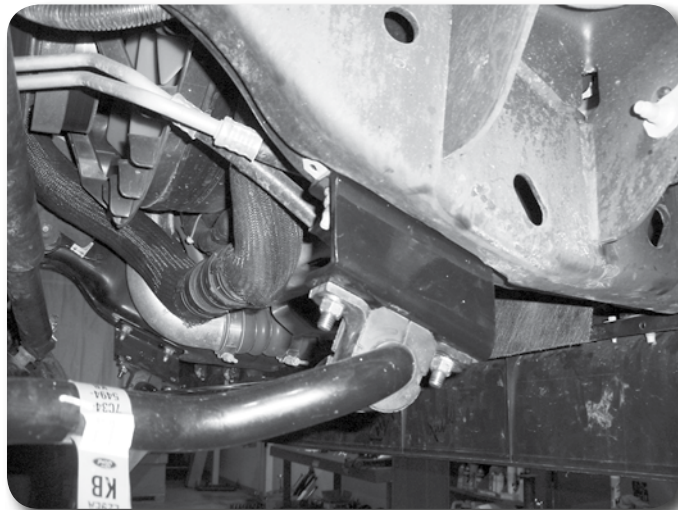

Figure 14
28. Locate the new sway bar drop brackets. Install the brackets on the frame with the original sway bar mount hardware. When installed the brackets should offset toward the front of the vehicle and the open face point to the inside. **Figure 14** Leave hardware loose.